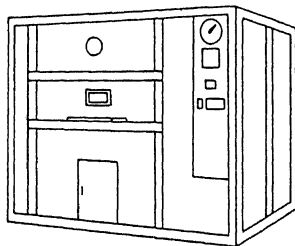

Figure 6-5.—Rotary oven.
**ROTARY OVEN.**—Rotary ovens (fig. 6-5) are found at shore station galleys and bakeshops. They may be heated by either electric or gas. Rotary ovens have revolving trays that create air movement making them ideal for baking and roasting.